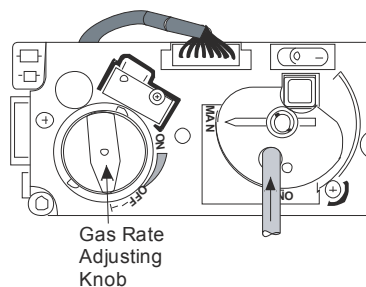

Figure 13
4. Using a rigid slender object (like a screwdriver) depress the pilot valve operator through the large hole in the knob (see **Figure 13**) and light the pilot using a match or lighted taper.
9. To turn the pilot off place the **ON/OFF** switch to **OFF (O)** position.